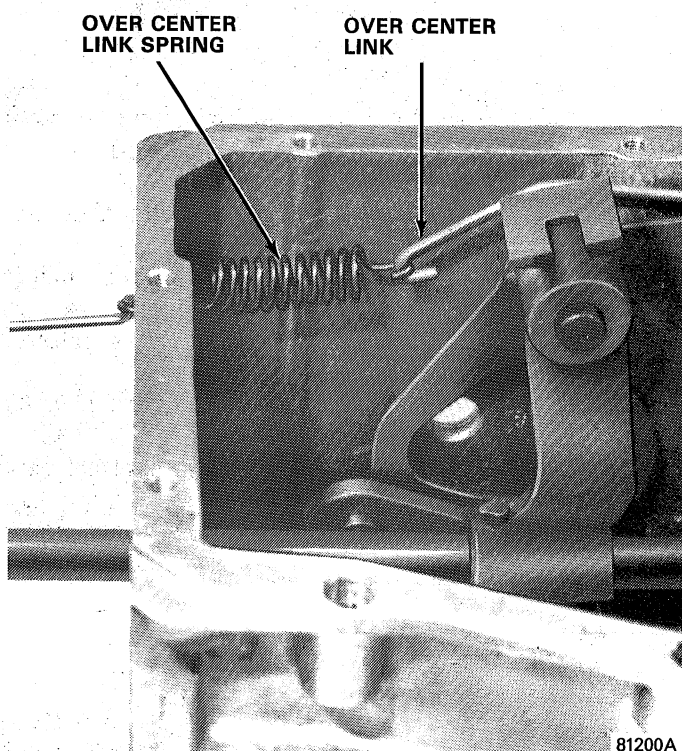

Fig. 2B-47 Reverse Lever Overcenter Link Spring Removal/Installation
(18) Rotate fifth gear-reverse shift rail clockwise (when viewed from top of transmission case) to disengage rail from reverse lever assembly. Remove rail from rear of transmission case (fig. 2B-48).